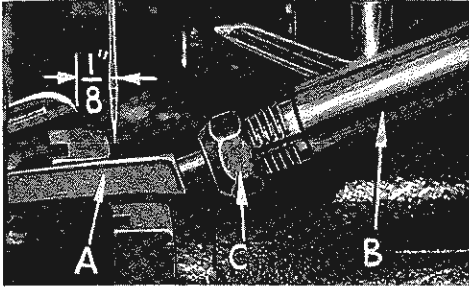
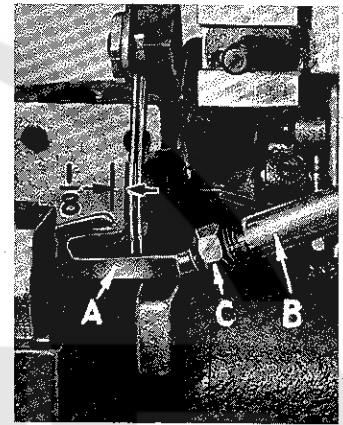

Fig. 5
Fig. 5A
At this point, insert lower looper (A, Fig. 5) for Style 39500 JK or lower spreader (A, Fig. 5A) for Style 39500 JL, into bar (B). With lower looper or spreader at the left end of its stroke, set looper point  $1/8$  inch from center of needle (Fig. 5) or set lower spreader  $1/8$  inch to the left of the center-line of left needle (Fig. 5A), using looper gauge No. 21225 G- $1/8$ . Do not have lower looper or spreader deflecting needle. Tighten nut (C). Now assemble differential (front) feed dog.